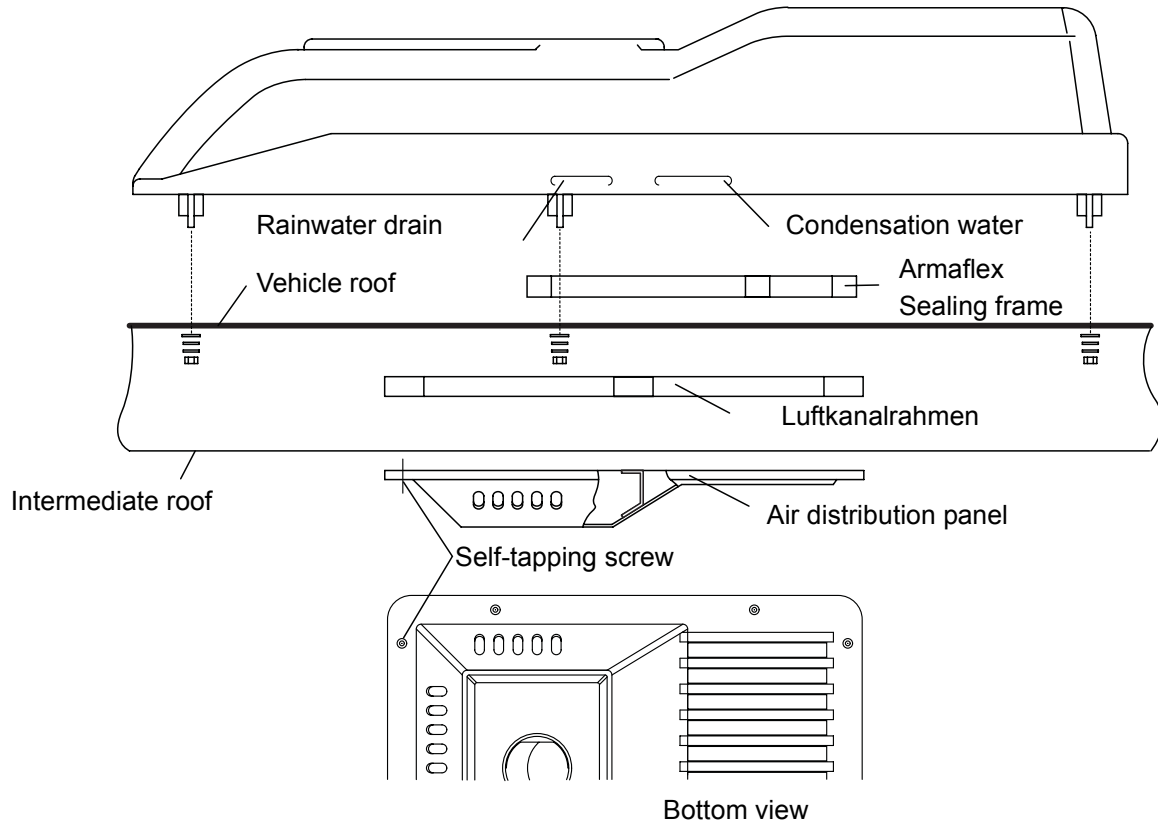

Fig. 4.3
- Prepare inner roof so that the air-distribution panel can be installed under the roof (see Fig. 4.3).
- d) Affix the sealing profile to the roof with the Sikaflex 221 included in the installation kit as shown in Fig. 4.3.
- a) Place the baseplate on the roof (sealing frame) and align it. Place silent blocks under the eight fastening points and insert the nine M8 bolts (with washers) into the holes (Fig. 4.3).
- d) Position the air distribution panel as shown in Fig. 4.3 and secure it with ten self-tapping screws to the intermediate roof or to suitable self-made brackets if necessary. If the optional recirculating-air filter has also been ordered, it must be inserted in the intake area of the air distribution panel.